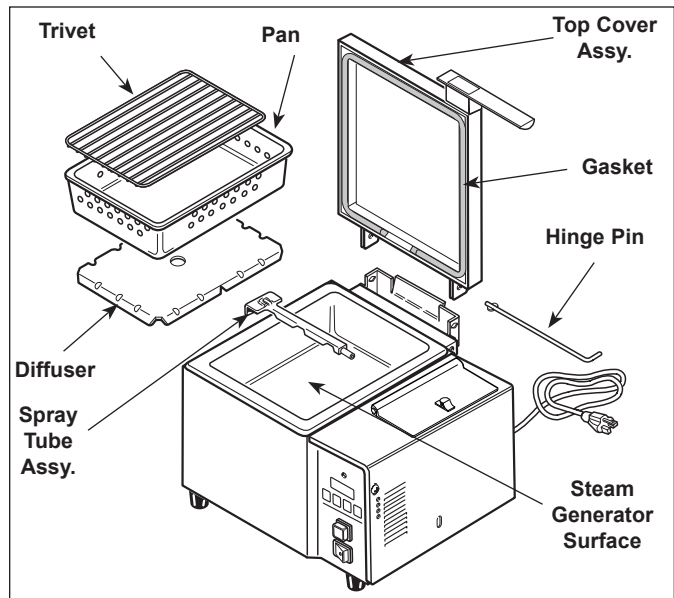

Figure 10. Deluxe Food Warmer Components (DFW-150 Shown)
3. Remove the Trivet and Pan (Figure 10).
5. Wipe down the Top Cover, Gasket, and the entire exterior of the unit (Figure 10) with a clean, hot, damp cloth (not dripping wet) and wipe dry.
5. Use a scraper or spatula to remove the excessive calcium/mineral buildup from the Generator surface (Figure 10).